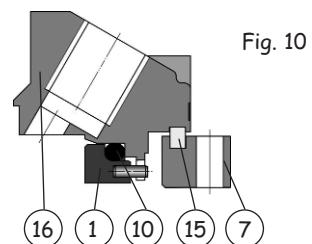

Fig. 10
4.2.2 Preassembling stationary group (fig.10)